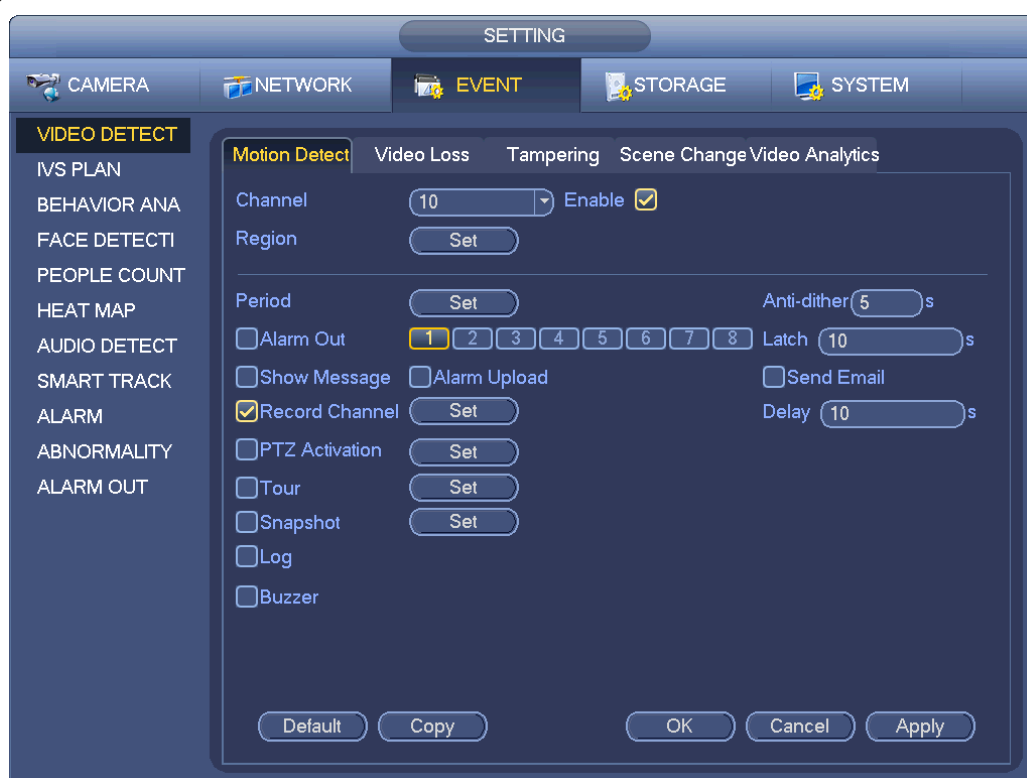

Figure 3-69
- a) From Main menu->Setting->Event->Video detect, you can go to the following interface. See Figure 3-69.